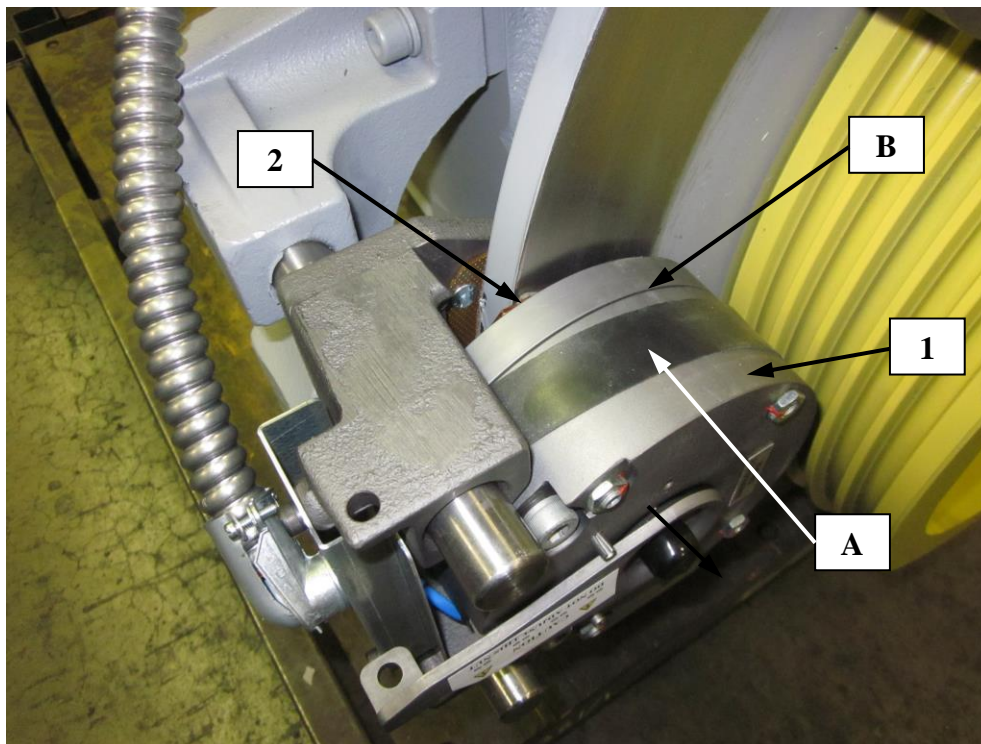

Figure 16
- Move rubber dust shield "A" to expose Air Gap "B". See Figure 16